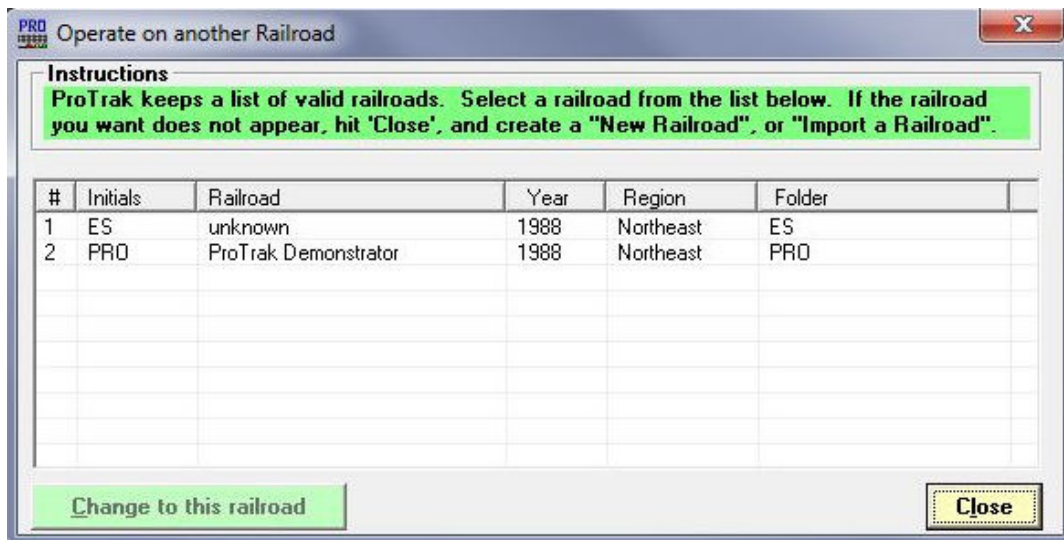

Figure 1-4
7. Once the changes described in step 3 have been made, click on "OK". At this point you will see that some action is taking place and a progress bar will be displayed at the bottom of the window. This is ProTrak copying files that will be used by your new railroad. Once all the files have been copied you will see the second window (see Figure 1-4) where you will select the Railroad you just created to be the railroad you're operating on.